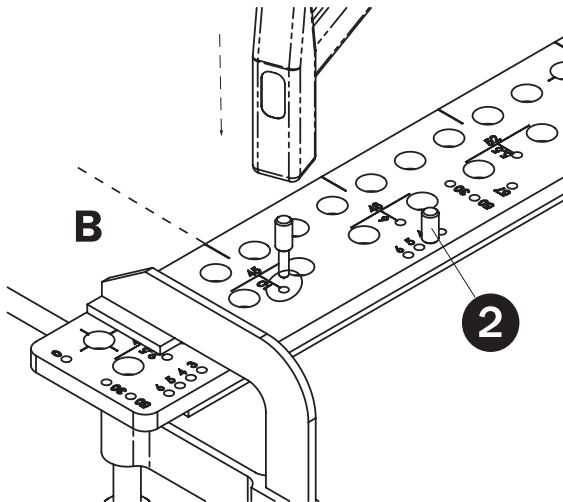

Fig. 18
Once the holes for the wood screws are drilled, indicate the pivot centre with pointed stop (**pos. 2**). Insert the stop in the hole and, gently tapping with a hammer, create a guide hole for the hinge bit (**Fig. 18**).